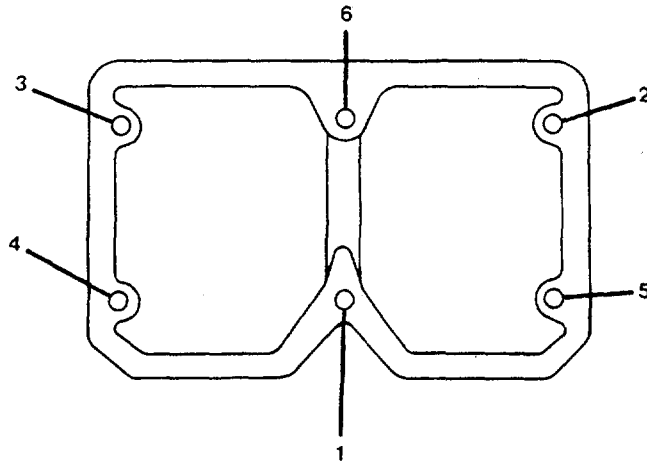

FIGURE 2-28. Rocker Housing Torque Sequence.
- (4) Install the engine lifting brackets (11, 12) with hexagon head capscrews (10).
- (5) Tighten the housing and bracket capscrews (10 and 19) to 60 ft-lb (81.3 N-m) torque. Use the sequence shown in Figure 2-28 when tightening the housing capscrews assembled washer screws.